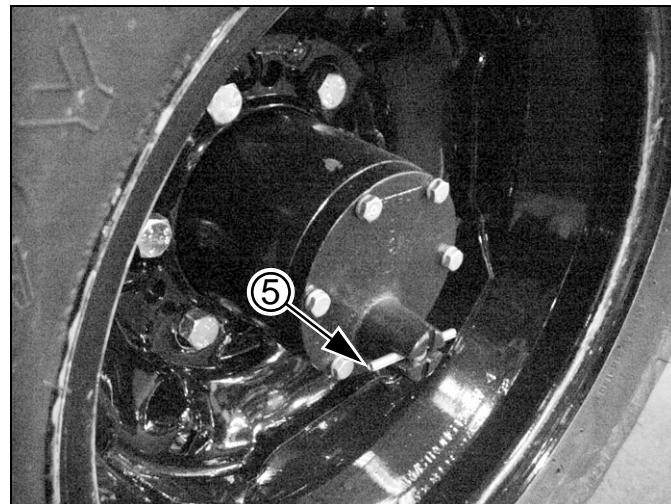

Figure 20
**Refer to Figure 20**
4. Engage drive with lock-out hub on the left gauge wheel. Pull pin ⑤ away from hub. Rotate 90°. Release into deeper notch pair.